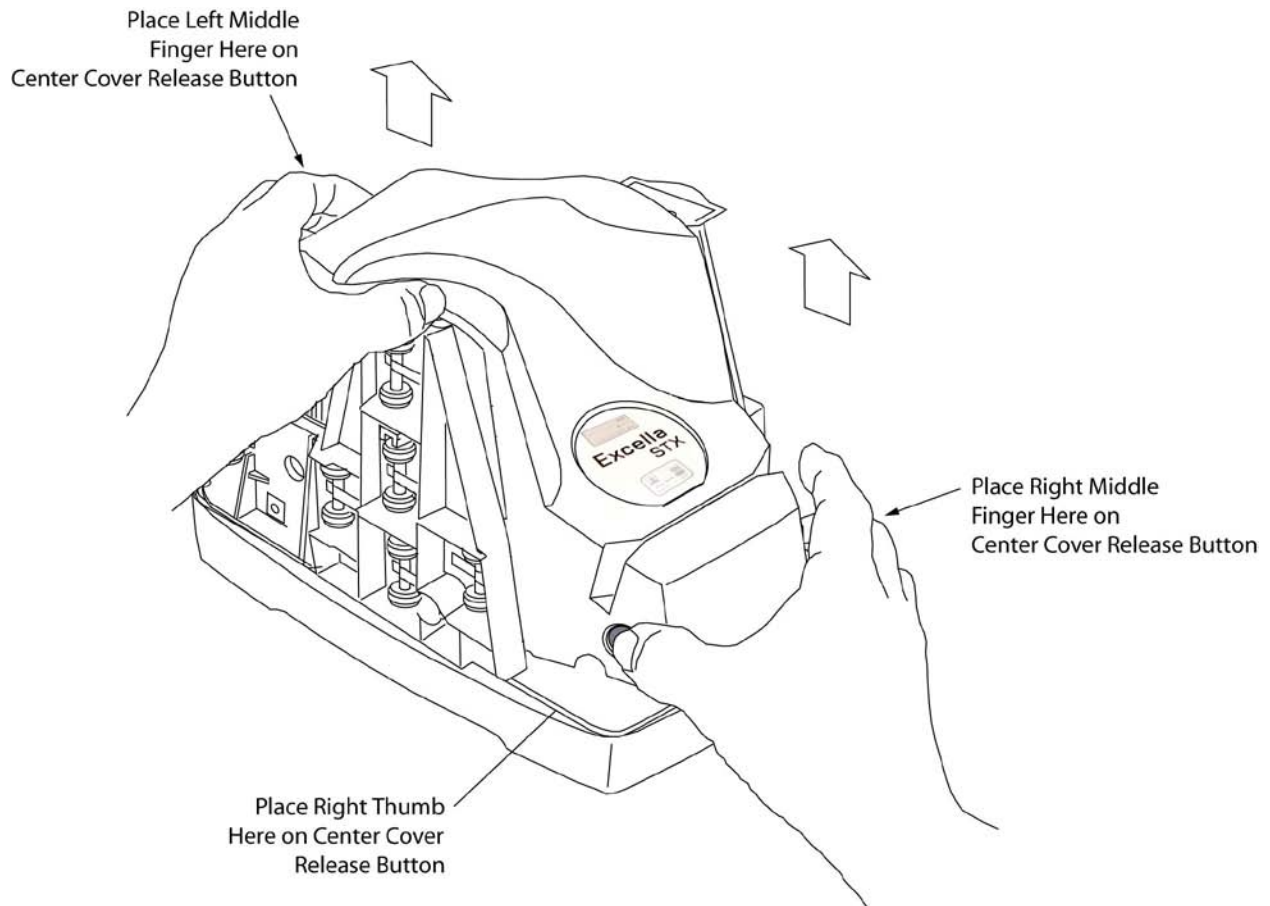

Figure 2-2. Center Cover Removal
1. Place the right-hand thumb and index finger on the front **Release Buttons** as indicated in Figure 2-2.
To replace the **Center Cover**, refer to Figures 2-2 and 2-3.